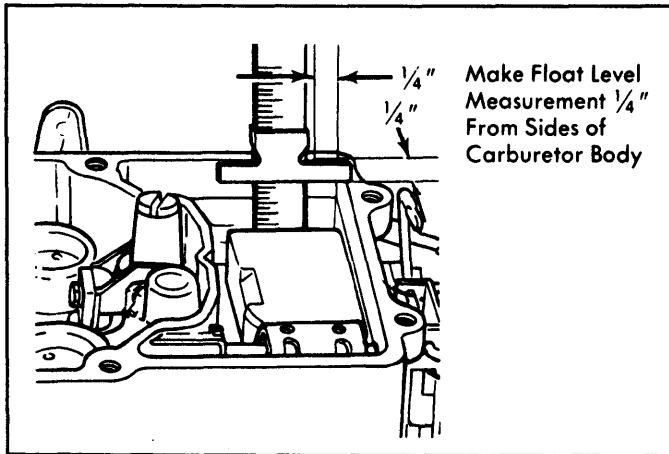

Fig. 3: Wet Fuel Level Adjustment
2) With engine idling, use "T" scale to measure from top machined surface of bowl to surface of fuel at a point at least 1/4" away from any vertical surface. See Fig. 3.